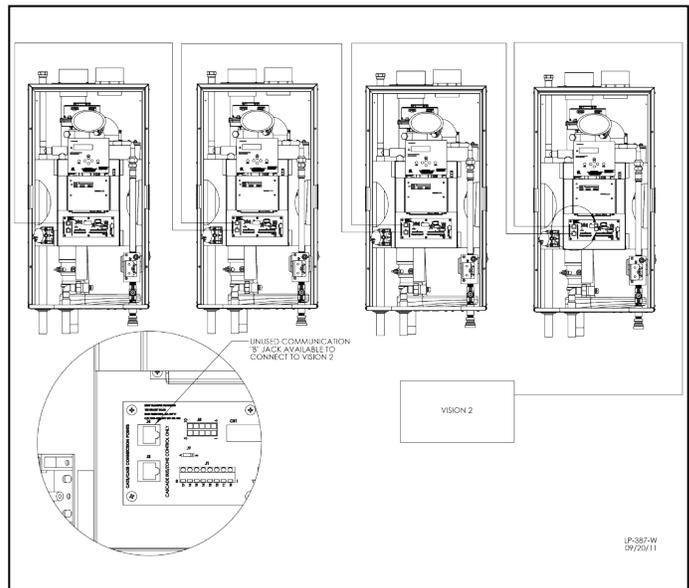

Figure 30 - Wiring Cascade System
1. A Cascade Bus Termination Plug has been installed on the customer connection board of this boiler. The purpose of this plug is to stabilize communication between multiple boilers and reduce electrical "noise". See Figures 30 and 31 for Cascade Bus Termination Plug installation detail.